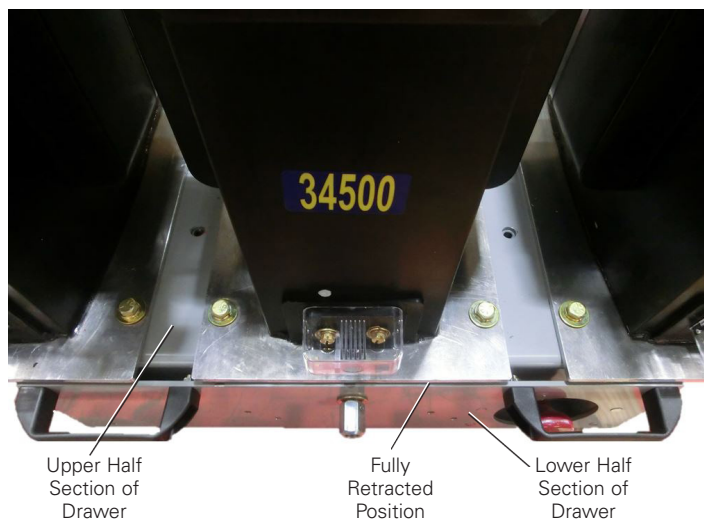

Figure 9. Transformer Drawer in the Retracted Position.
1. Confirm that the transformer drawer is in the fully retracted position prior to moving it into the compartment. The drawer is fully retracted when the upper-half section of the drawer is butted up against the lower-half section of the drawer (see Figure 9).